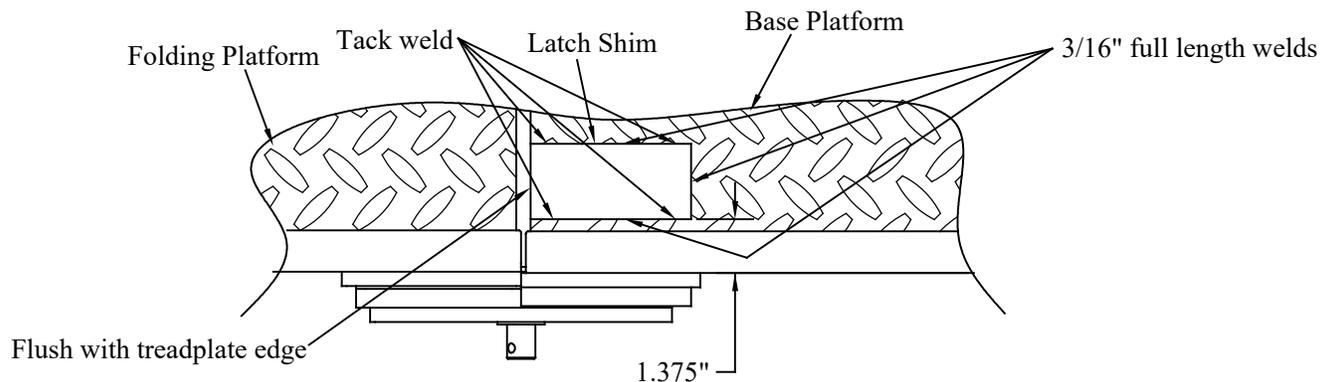

Figure 9: Latch roller shim (top view, passenger side).
16. **Position** the latch shim on the platform as shown (Figure 9).
18. **Tack weld** the shim to the treadplate near all four corners (Figure 9).
19. **Weld** a 3/16" weld the full length on the 3 sides shown attaching the latch shim to the platform (Figure 9).